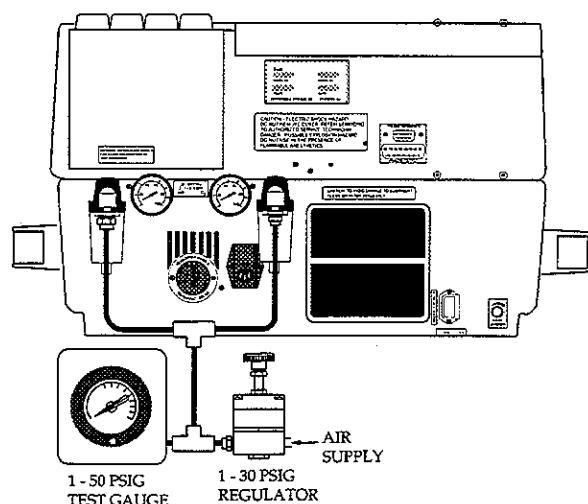

Figure 5-7
1. Connect an external gas source and gauge to the ventilator as shown in Figure 5-7.